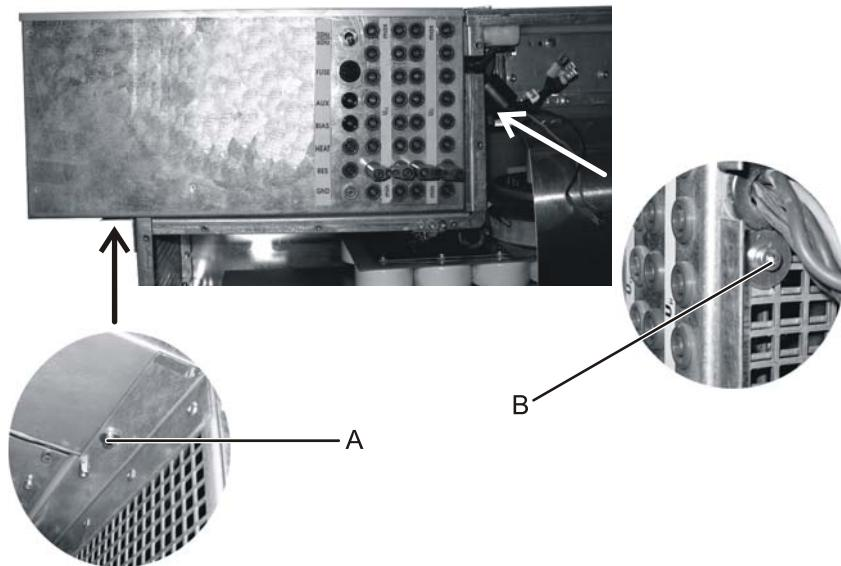

Figure 56: Screws securing thyratron supply unit
29. Use the 3 mm allen key to insert and tighten the six thyratron securing screws at the base (see Figure 56).
One screw is situated on the locating flange underneath the thyratron supply unit (see Figure 56, A) and the other screw on the side of the unit pointing towards the thyratron (B).
13. Use the 3 mm allen key to insert and tighten the two screws securing the thyratron supply unit (see Figure 56).